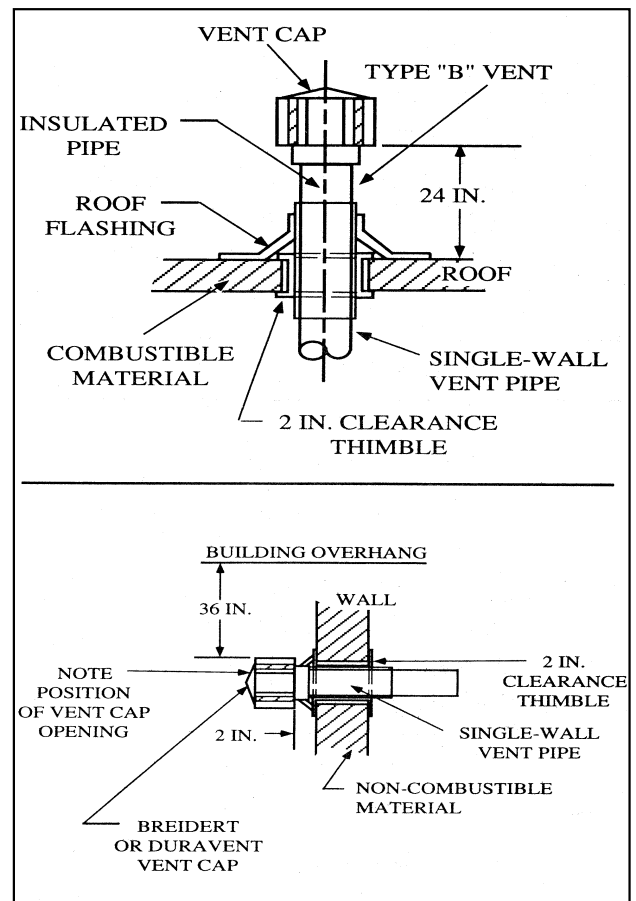

Figure 1-20
- Stacks may consist of a 10 ft. section of radiant tubing, if desired. Single wall galvanized flue pipe must be used. The portion of the flue pipe which goes through combustible material in the building wall or roof must pass through a type "B" vent sleeve to maintain clearances (see Figures 1-20 and 1-21). See the Flue Venting Chart for maximum stack lengths.
- Stacks may exit the building either horizontally or vertically. Vertical venting exiting the roof should be 2 ft. above the roof. For horizontal venting, the flue should be 2 in. from the sidewall. Care should be exercised to ensure that the vent opening is beyond any combustible overhang (see Figure 1-20).